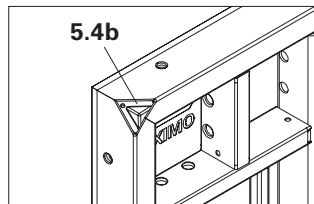

Fig. A1.02a
- Levering corner (5.4b) (Fig. A1.02a)